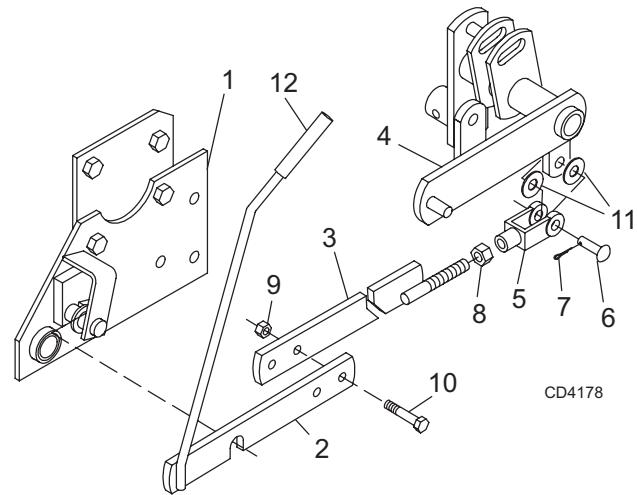

Figure 26 Transport Lock-Up Installation
- Secure clevis yoke (5) to rear rockshaft assembly (4) with clevis pin (6). Flat washers (11) must be installed as shown in Figure 26.
- Secure clevis pin (6) with cotter pin (7). Do not spread cotter pin at this time.
- Install handle grip (12) on lock-up bar (2)